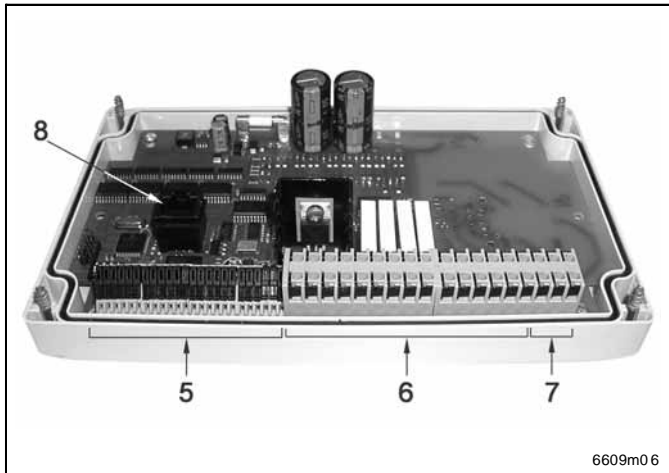

Fig. 3 LMC2 electrical connections
- The terminals for signal inputs (pos. 5), for the ACTUATOR lines (pos. 6) and for the mains supply (pos. 7) are located on the control p.c.b. (Fig. 3).